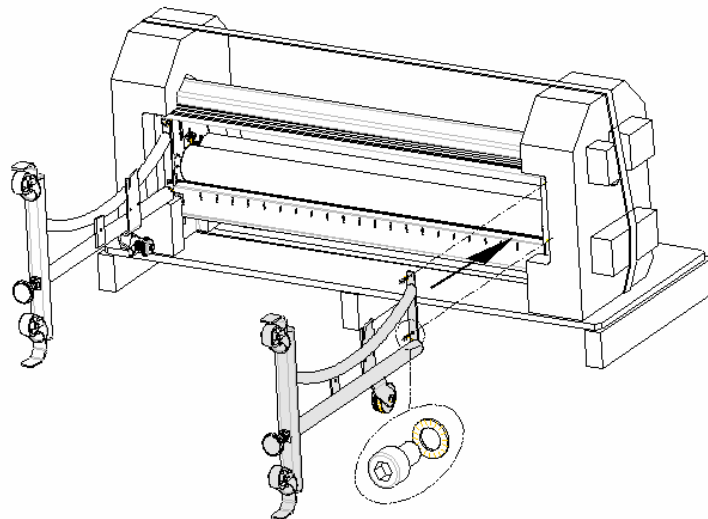

Figure 3
4. Mount the RH-part of the stand onto the laminator as shown in figure 3. Use the serrated washers and the socket screws M6x16.